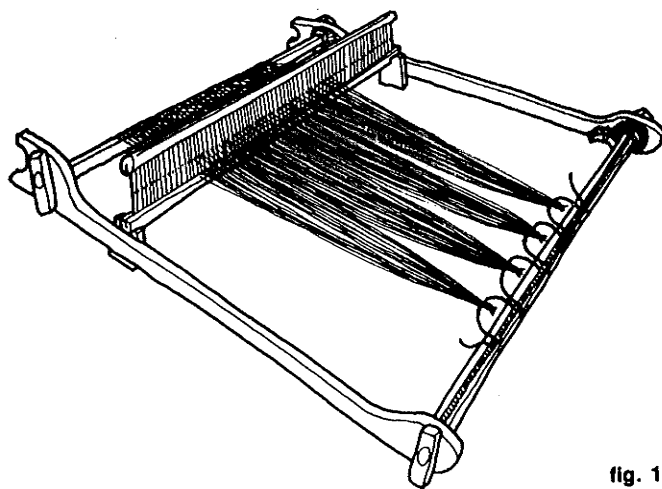

fig. 14
11. Adjust the cloth beam so the dents are pointing toward you at a slight angle. Adjust the warp beam so the warp bundles are 3 inches inside the cloth beam. **Place the heddle in the upper position on the shed blocks** (fig. 14).
14. Tie the end of the cord to the first 2 or 3 dents on the cloth beam. Pass the cord through the first warp bundle, and around 2 or 3 corresponding dents on the cloth beam (fig. 14). Continue passing the cord through the warp bundles and around dents until all warp bundles are lashed. Try to maintain some tension on the cord while lashing, and **do not allow any warp bundles to touch the beam**. Tie the end of the cord to the last 2 or 3 dents on the cloth beam.